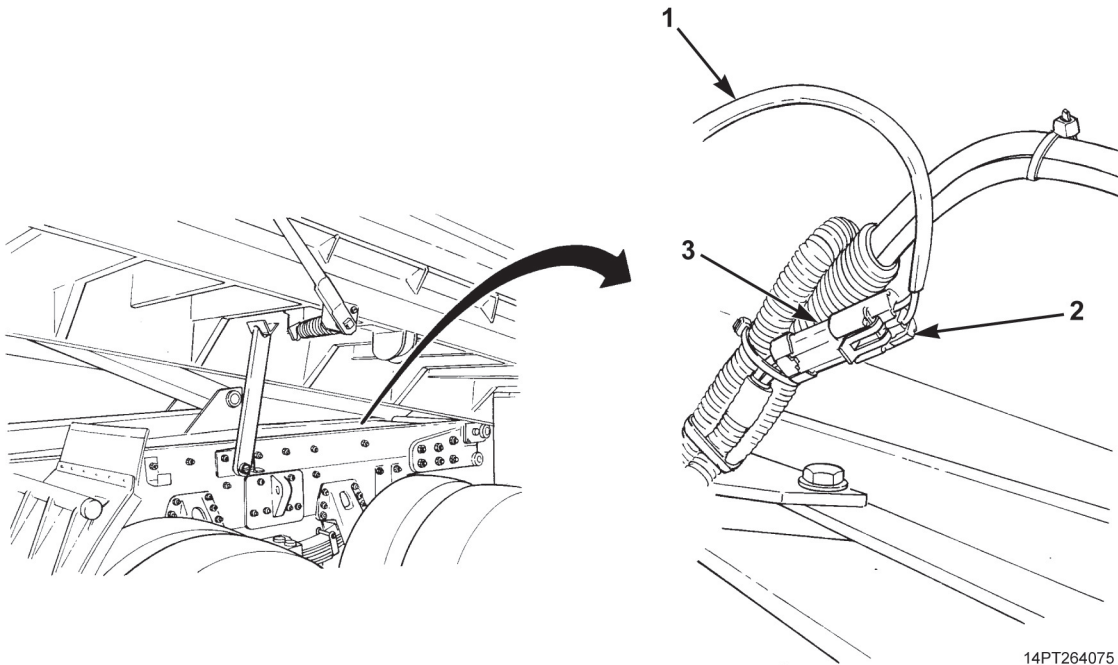

Figure 3. Beacon Warning Light Wiring Harness Installation.
1. Position wiring harness (Figure 3, Item 1) between points of connection.
2. Connect wiring harness connector (Figure 3, Item 2) to chassis wiring harness connector (Figure 3, Item 3).